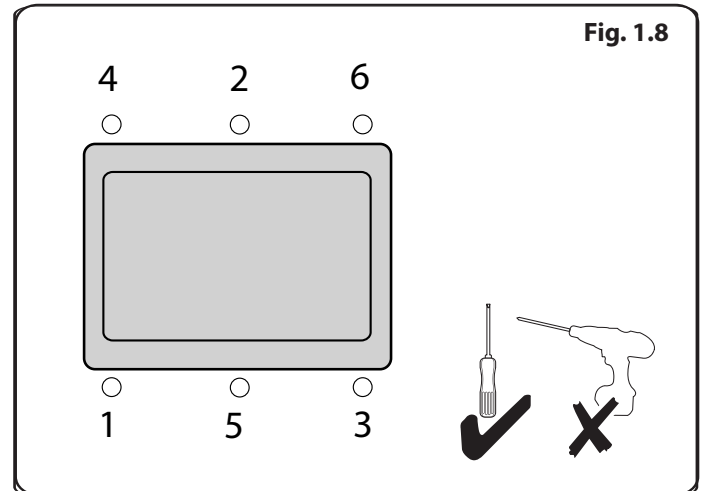

Fig. 1.8
2. Centre the sink. Tighten the fixing screws in the sequence shown in **Fig. 1.8**.